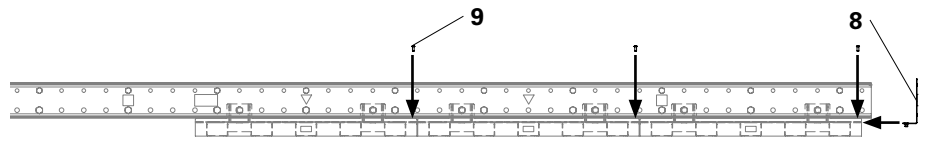
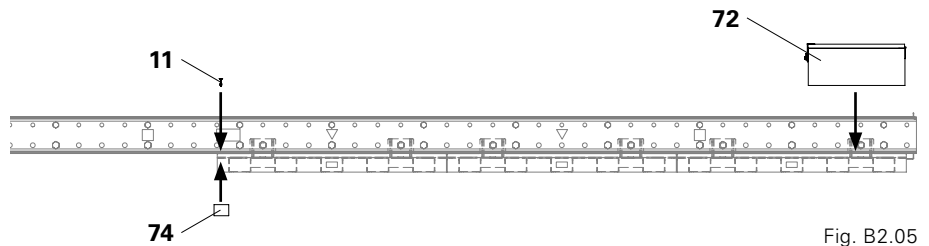

Fig. B2.04
Fig. B2.05
6. Push Toeboard RCS-MP 263 (8) from the rear to the Platform Panel RCS-MP 125 x 275 (5).
7. Fix Toe Board RCS-MP 263 (8) to the Platform Panel RCS-MP 125 x 275 (5) using 7x Oval-Head Screws ISO 7380 M10 x 25-10.9 (9). (Fig. B2.04)
8. Place Timber 100 x 60 (74) from below on the front Platform Panel RCS-MP (5/6).
9. Mount Timber 100 x 60 (74) to the Platform Panel RCS-MP (5/6) using 7x TSS-Torx 8 x 44 (11).
10. Place Material Box RCS-MP (72) in the platform. (Fig. B2.05)